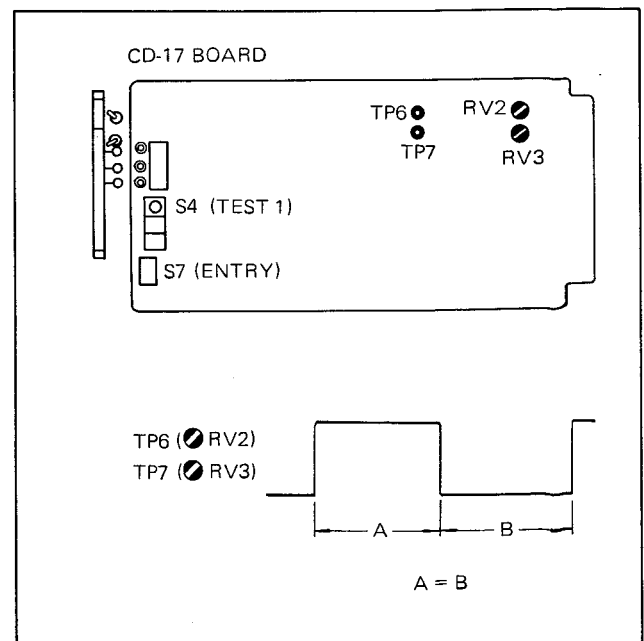

Fig. 3-50. Motor FG Duty Cycle Adjustment
18. Confirm that the duty cycle of the waveform at TP6 of the CD-17 board is 50% as shown in Fig. 3-50. If necessary, adjust RV2.